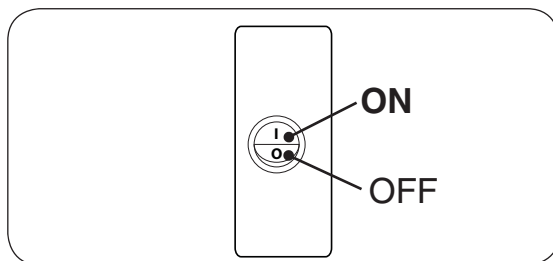

Fig. 19-2 Switch box, ON/OFF
2. Locate the ON/OFF switch at the front of the switch box. Press the switch to the **ON (I)** position. See Fig. 19-2.